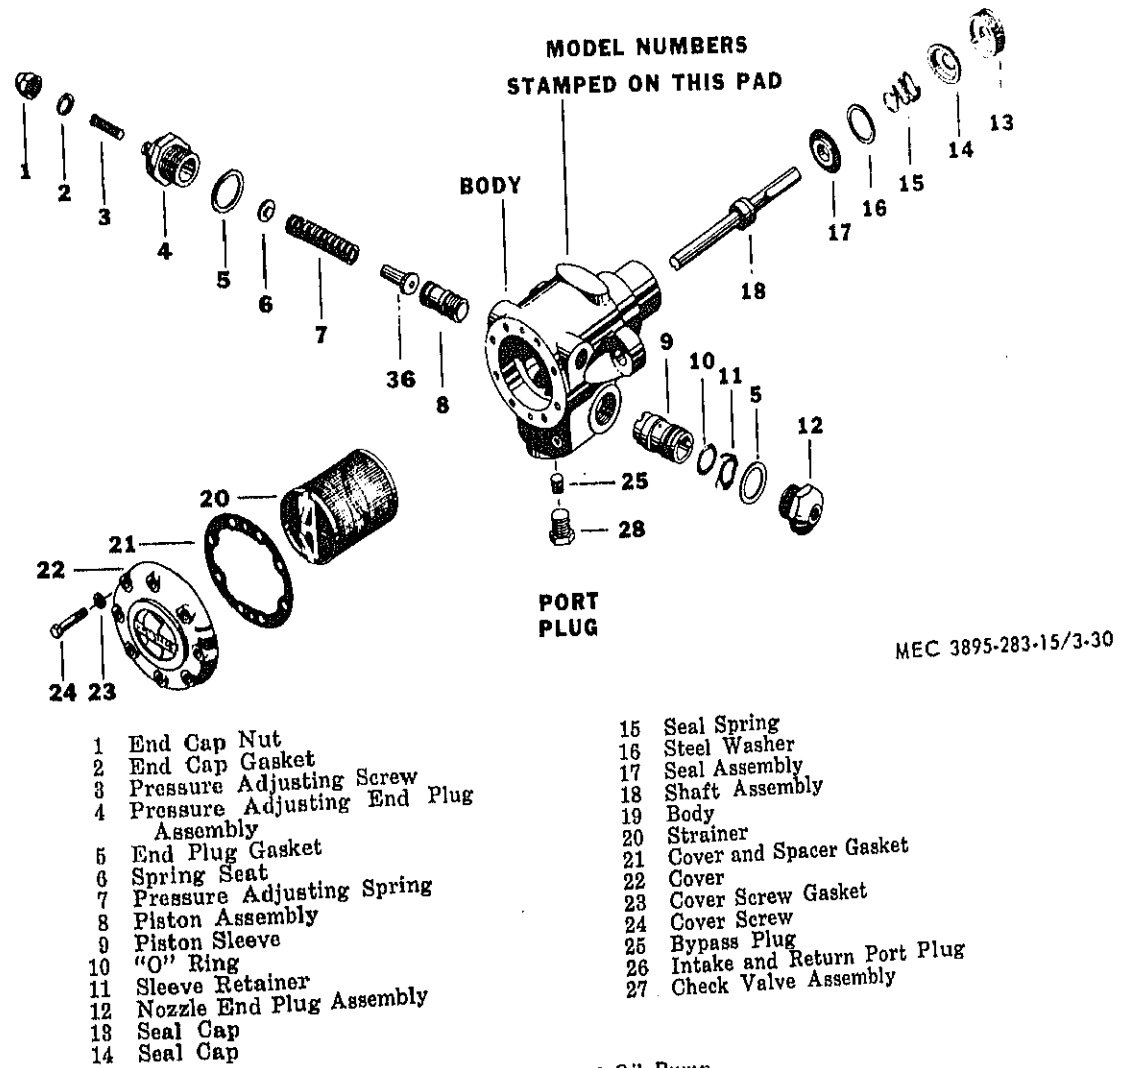

Figure 3-30. Exploded View of Fuel Oil Pump.
(1) Disassemble pump, clean and inspect the parts. Replace all damaged parts (fig. 3-30).
(2) Install new gaskets and reassemble pump (fig. 3-30).